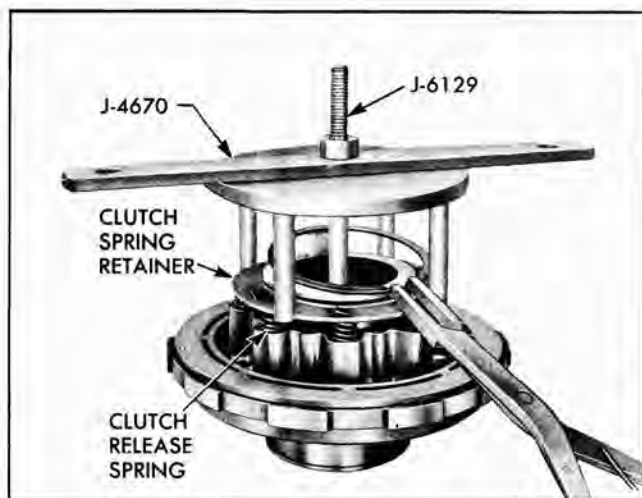

Fig. 77 Removing Rear Unit Clutch Spring Snap Ring
of spring retainer and start nut on stud J-6129 (Fig. 77). NOTE: If compressor J-4670 has no hole in middle, drill a $\frac{7}{16}$ " hole so that stud J-6129 can be inserted through it.
d. Remove snap ring (Fig. 77).